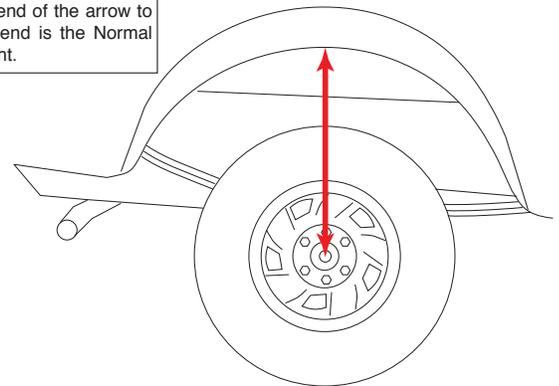

Fig. 2
1. Measure the distance between the center of the hub and the bottom edge of the wheel well (see Fig. 2). This is the Normal Ride Height. Enter the measurement below: